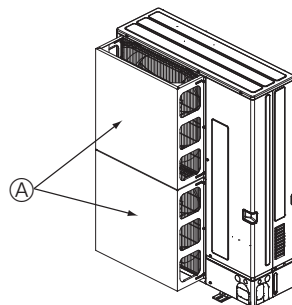
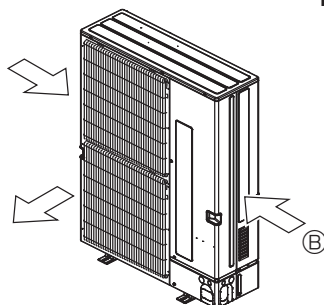

Fig. 2-3
Fig. 2-4
- ② Install an optional air guide if the unit is installed in a location where strong winds from a typhoon, etc. may directly enter the air outlet. (Fig. 2-3)
- ④ Air guide
- ③ Position the unit so that the air outlet blows perpendicularly to the seasonal wind direction, if possible. (Fig. 2-4)
- ⑤ Wind direction